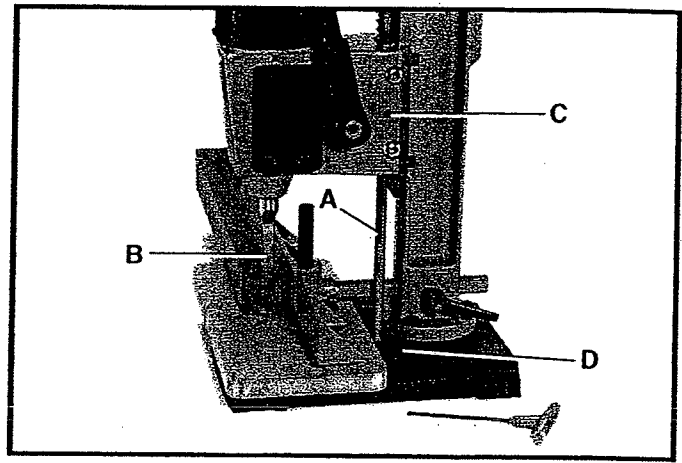

Fig. 29
1. A depth stop rod (A) Fig. 29, is provided to limit the depth of the chisel (B). To adjust the depth stop rod (A), loosen screw (C) and lower head until the chisel (B) is at the desired depth. Lower depth stop rod (A) until it contacts base (D) and tighten screw (C).